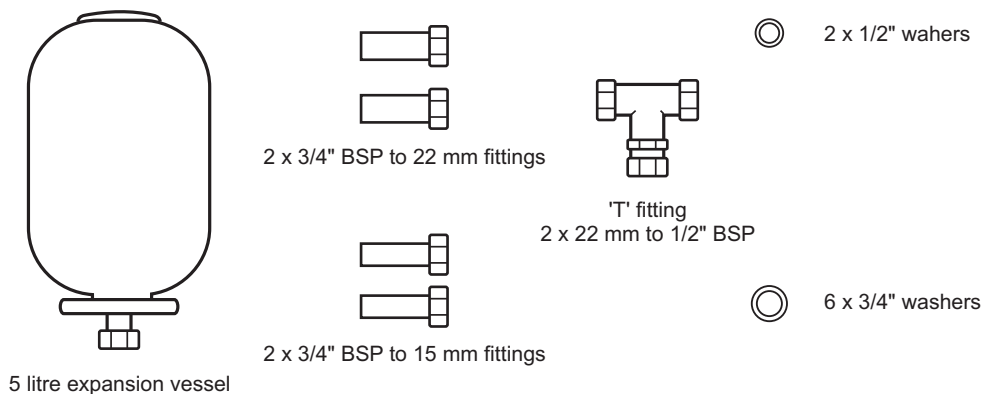

Fig. 7 - Expansion vessel kit contents
- e. A FlowSmart expansion vessel and fittings kit (Part No. 3.019505) which contains the items shown in Fig. 7